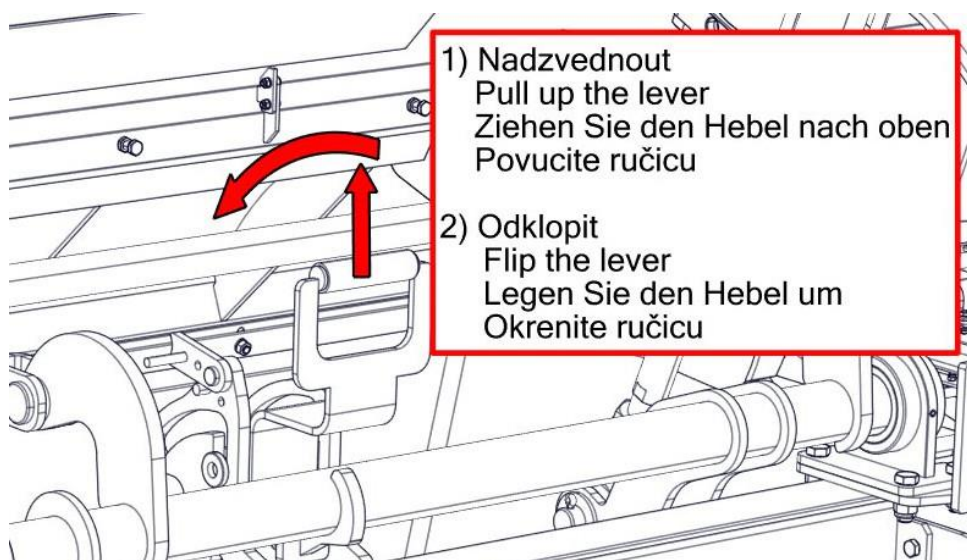

Fig. 22
- lift the handle and put it in the open position – Fig. 22